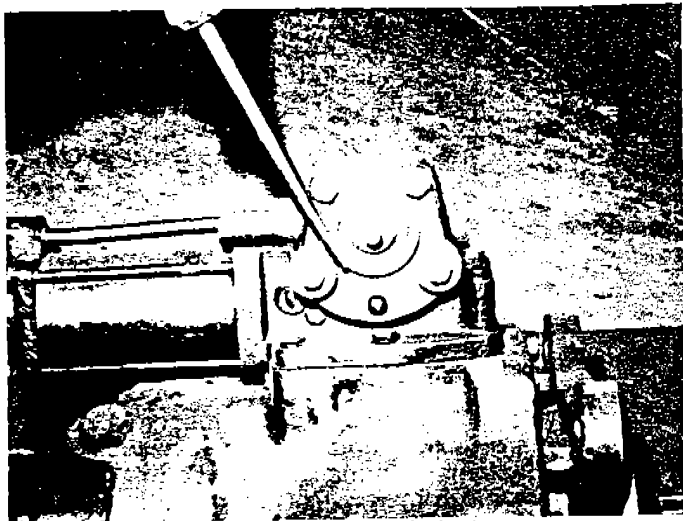

Figure 7
4. *Creeps in neutral.* Detent plate not centered—loosen. **DO NOT REMOVE.**—two hold down screws and move the detent plate to a position where the creeping stops and noise is reduced to a minimum. Tighten the hold down bolts. (Fig. 7)